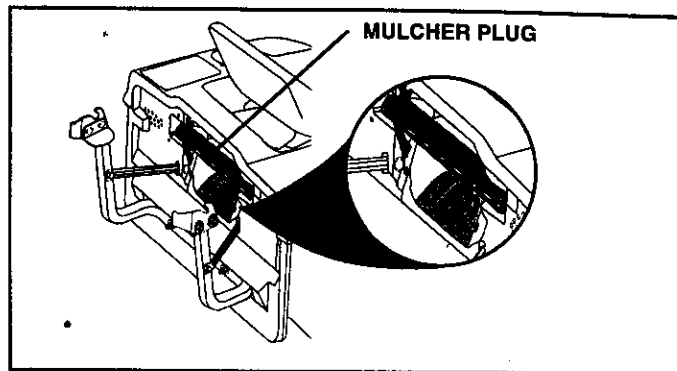

FIG. 19A
- Unhook the two (2) straps and remove discharge chute
- Retain the plug assembly by connecting the two straps over the handle and hook into the holes provided (See Fig. 19A).